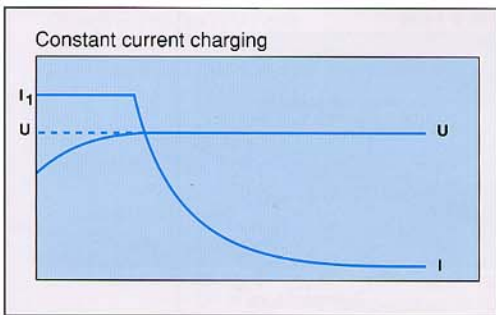

Fig. 7 :
*IU-characteristic Charging (Fig. 7)*